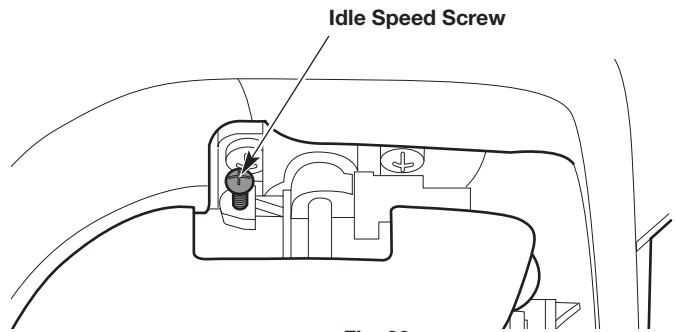

Fig. 30
- If the engine stops, increase the idle speed. Use a small Phillips screwdriver to turn the idle speed screw clockwise, 1/8 of a turn at a time, until the engine idles smoothly (Fig. 30).
- If the cutting head spins when the engine idles, reduce the idle speed. Turn the idle speed screw counterclockwise, 1/8 of a turn at a time, until the cutting head stops moving (Fig. 30).